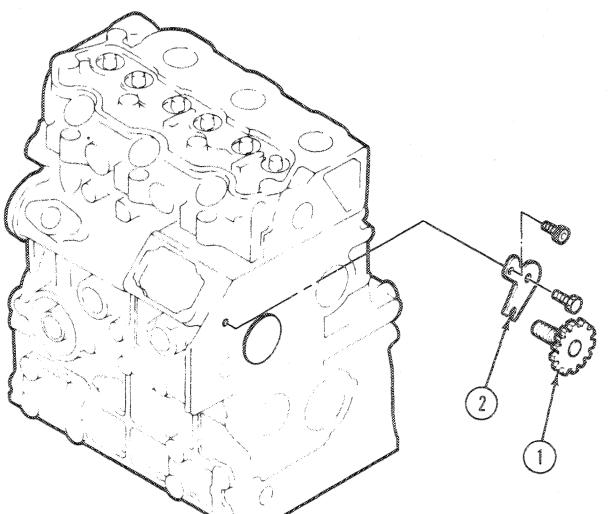

Figure 47
2. Install the tachometer drive shaft and plate, Figure 47.